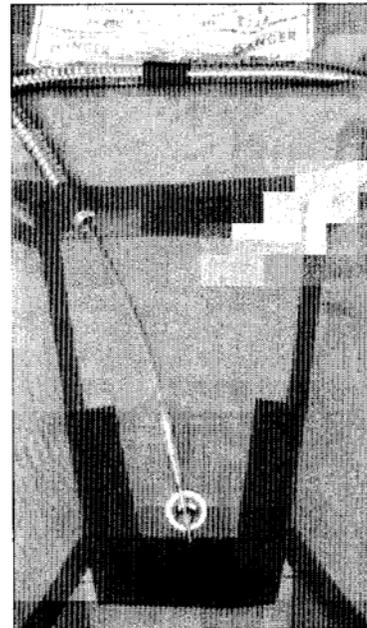

Figure 17
**Step 28** Close flap #5 and lock with temp pin. Close the #6 flap and lock with the ripcord. *Figure 17* At this time, the rigger should make the determination as to how tight the closing loop is and whether to perform a pull test to determine whether it is within the 22 lb limit. Once that determination has been made, seal the ripcord and log the pack job.